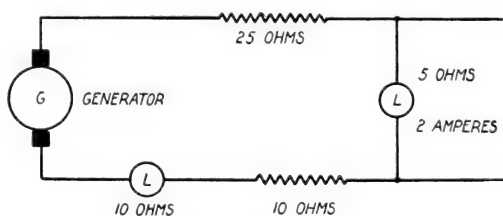

Fig. 17. Series Circuit
In Fig. 17 there are four devices connected in series, with the resistances of each and the current of one given.
**Problem 3.** What is the voltage drop across a 5-ohm lamp (Fig. 17)?
**Problem 4.** What is the current of the circuit (Fig. 17)?
**Problem 5.** What is the current of the 25-ohm resistance (Fig. 17)?
**Problem 6.** What is the total resistance of the circuit (Fig. 17)?
**Problem 7.** What is the voltage supplied by the generator (Fig. 17)?